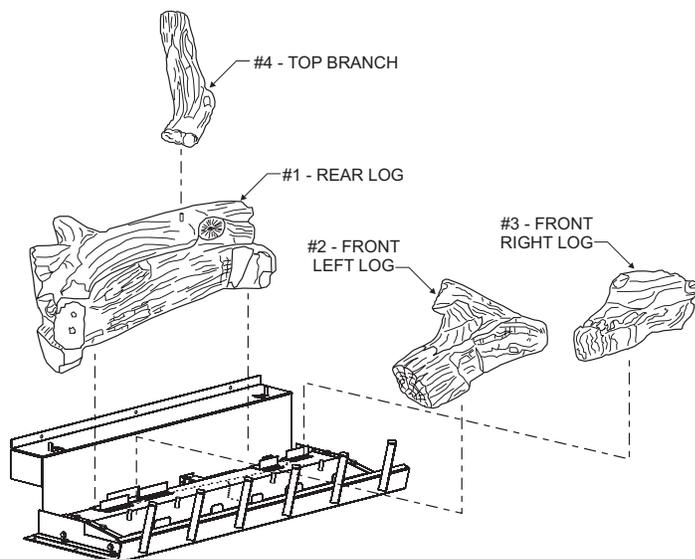
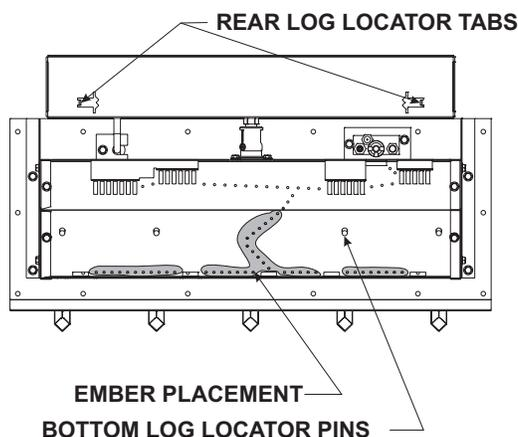

Figure 79
Figure 77
The positioning of logs is critical to safe and clean operation of this fireplace. Sooting and other problems may result if the logs are not properly and firmly positioned in the firebox. Please refer to **Figure 77**, **Figure 78**, and **Figure 79** and corresponding WARNING, when completing the following log placement steps.
9. After all logs are properly positioned, place small "dime" size pieces of Rockwool lightly across the front round "blueflame" ports. Place the ember material (Rockwool pieces) side by side. Do not stack more than one layer of embers across the burner ports. See **Figure 77**.
Attention: Do not use Figure 78 or Figure 79 to order logs. Refer to parts view on page 63 and parts list on pages 64 and 65 to order logs and/or ember material for your appropriate fireplace model.